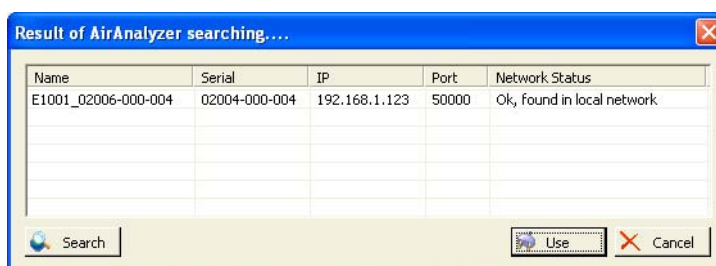
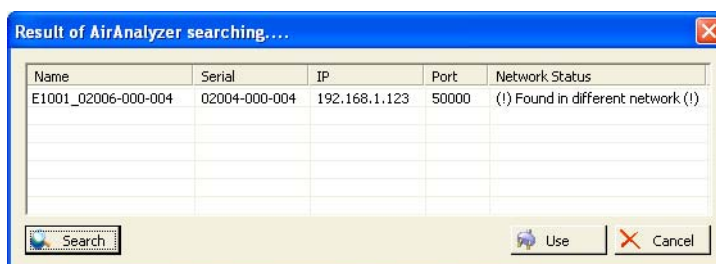

Figure 25 Successful search for 8140 on the LAN
Figure 26 Search for 8140 on the LAN, partially successful
Step (2): Select the hardware within the network. If the hardware is not detected automatically you can use the button  to search for it. You can also use the search dialog to see if an AirAnalyzer was detected within the correct IP network; see Figure 25 and Figure 26.